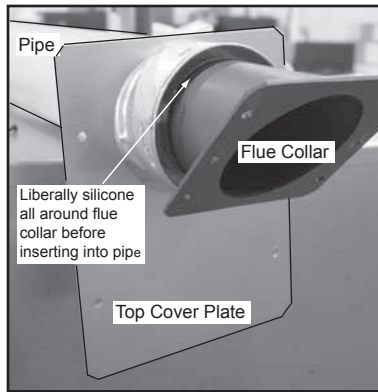

Figure 36.1
5. Before inserting the flue collar into the pipe, liberally silicone the end of the flue collar with Hi-Temp silicone about 1-1/2 inches (38mm) wide. **Figure 36.1 on page 36.**